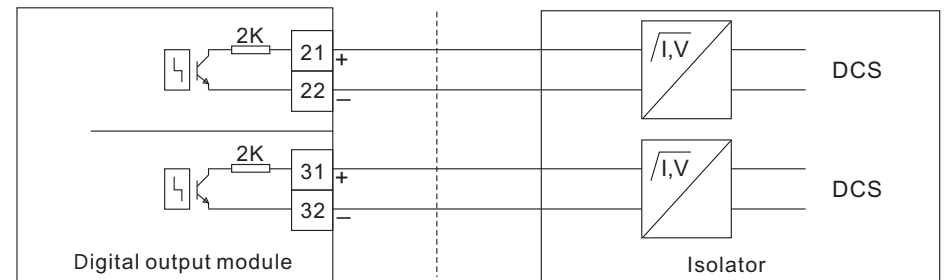

Fig 4-14 : Digital output module electrical connection
4.4.4.2 Digital output module electrical connection (Fig 4-14)